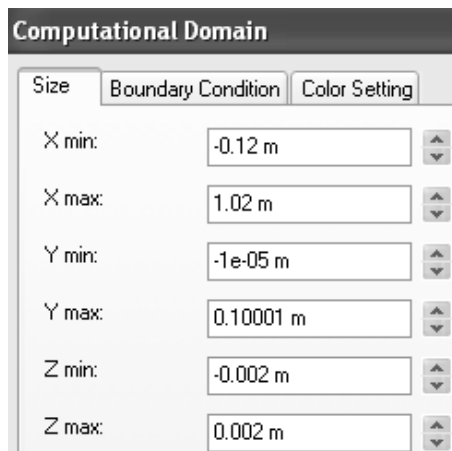
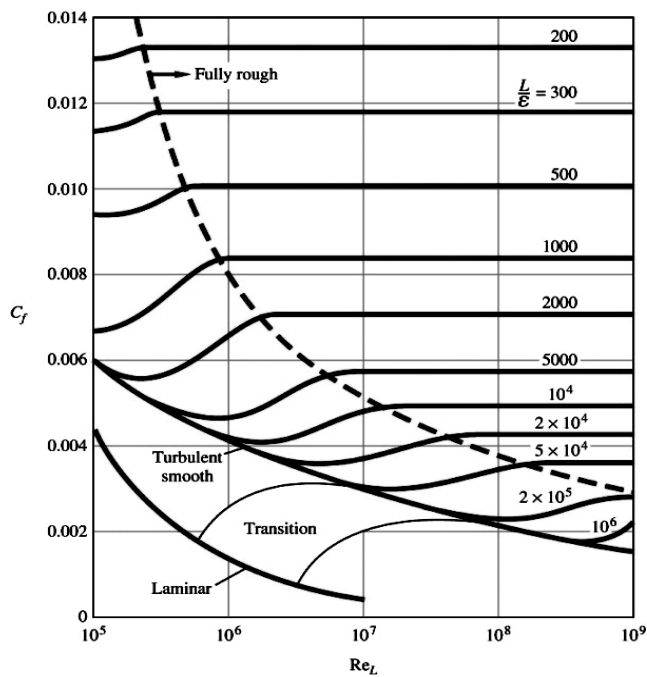

Figure 2.28a) Setting the size of the computational domain
Figure E3 Average friction coefficient for flow over smooth and rough flat plates, White (1999)
30. Select **Flow Simulation>>Computational Domain...** Set the size of the computational domain to the values shown in figure 2.28a). Click on the OK button to exit. Select **Flow Simulation>>Initial Mesh...** from the SolidWorks menu and change the **Number of cells per X:** to **400** and the **Number of Cells per Y:** to **200**. Also, in the **Control Intervals** portion of the window, change the **Ratio** for **Y1** to **-100** and the **Ratio** for **X1** to **-5**. This is done to increase the number of cells close to the wall where the velocity gradient is high. Click on the OK button to exit. Select **Flow Simulation>>Calculation Control Options...** from the SolidWorks menu. Change the **Maximum travels** value to **5** by first changing to **Manual** from the drop down menu. Travel is a unit characterizing the duration of the calculation. Click on the OK button to exit.
The average friction coefficient over the whole plate C_f is a function of the surface roughness for the turbulent boundary layer and also a function of the Reynolds number based on the length of the plate Re_L , see figure E3 in Exercise 8. This friction coefficient can be determined in Flow Simulation by using the final value of the global goal, the X-component of the Shear Force F_f and dividing it by the dynamic pressure times the area A in the X-Z plane of the computational domain related to the flat plate, see figure 2.28a) for the size of the computational domain.
8. Use different fluids, surface roughness, free stream velocities and length of the computational domain to compare the average friction coefficient over the entire flat plate with figure E3.